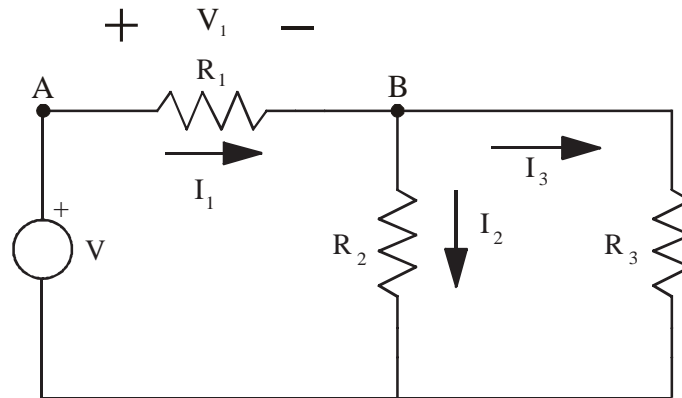

Figure 2.14 Current Divider Circuit
- (1) Describe how you read resistor values and tolerances.
- (2) Derive formulas, using the voltage divider and current divider rules, for the following voltage and current in Figure 2.14, using V , R_1 , R_2 , and R_3 only.